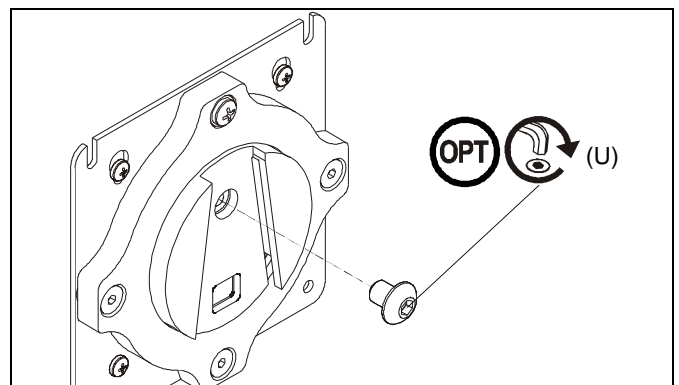

Figure 3
**NOTE:** (Optional) Rotational adjustment may be locked by installing rotational locking screw (U) into back of faceplate. (See Figure 3)